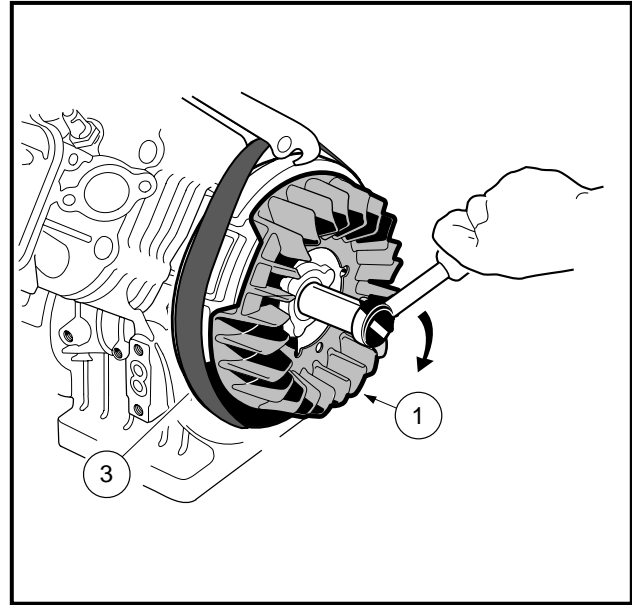

Figure 13-107 Fan and Flywheel Assembly
3. Use a strap wrench (3) to keep the flywheel and fan assembly (1) from turning while tightening the flywheel nut to 63 ft-lb (85.4 N·m) (**Figure 13-107, Page 13-48**). **See following CAUTION.**